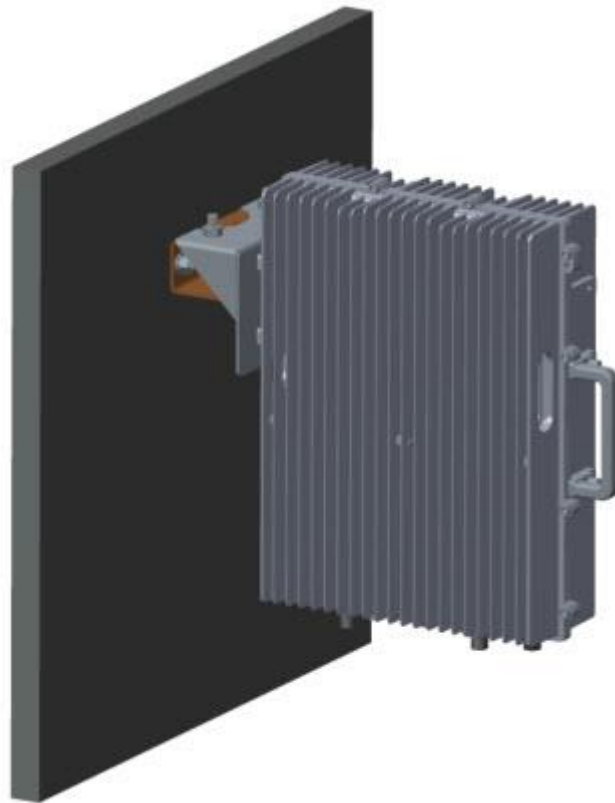
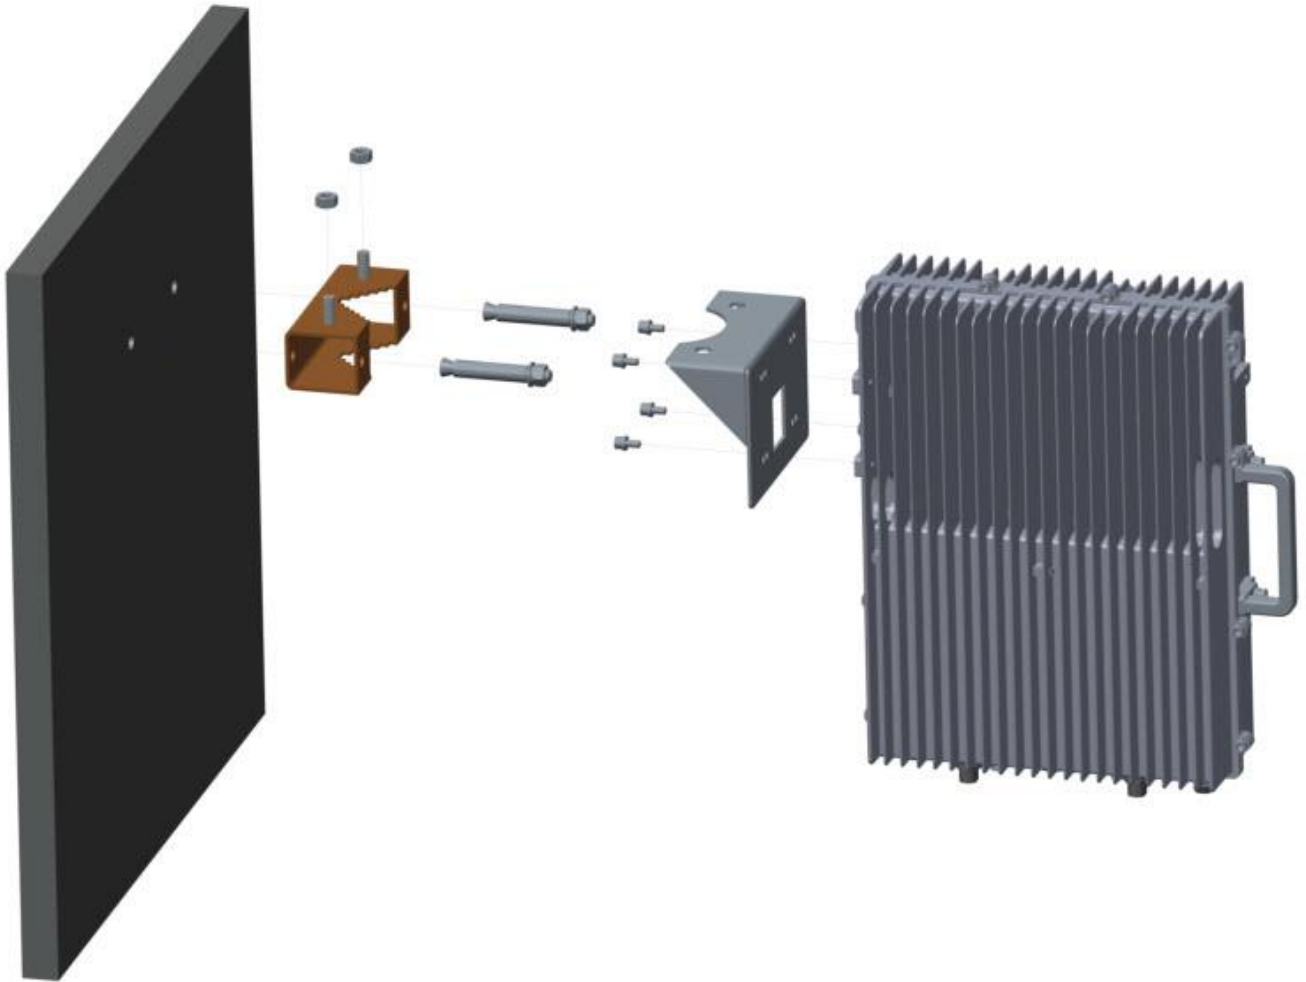

Figure 6-4 Schematic of RU Wall Side-mounting Installation
Figure 6-5 Exploded View of RU Side-mounting Installation
- 2) Side-mounting Installation(see Figure 6-4 and Figure 6-5):